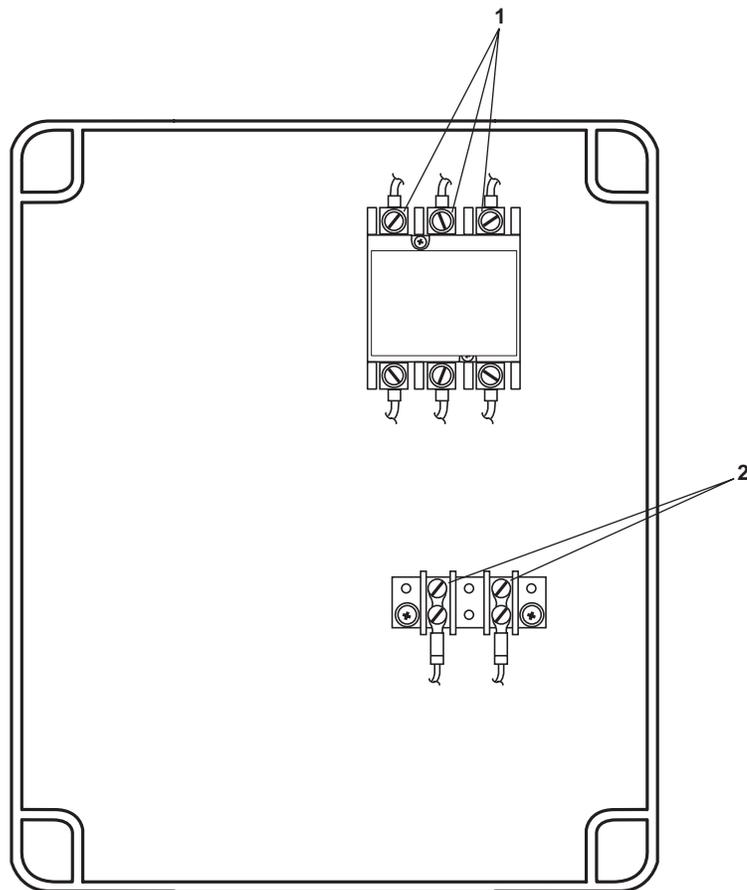

Figure 2. System Controller Terminal Boards
- Inside the applicable system controller, take voltage readings with a multimeter, measuring across connection points L1, L2, and L3 (figure 2, item 1), and across the INPUT 24VDC terminals (figure 2, item 2). Ensure that all electrical circuits are deenergized. If voltage is present, verify that the correct circuit breakers are set to OFF, locked out, and tagged out (FM 55-502). If no voltage is present, continue with the procedure.